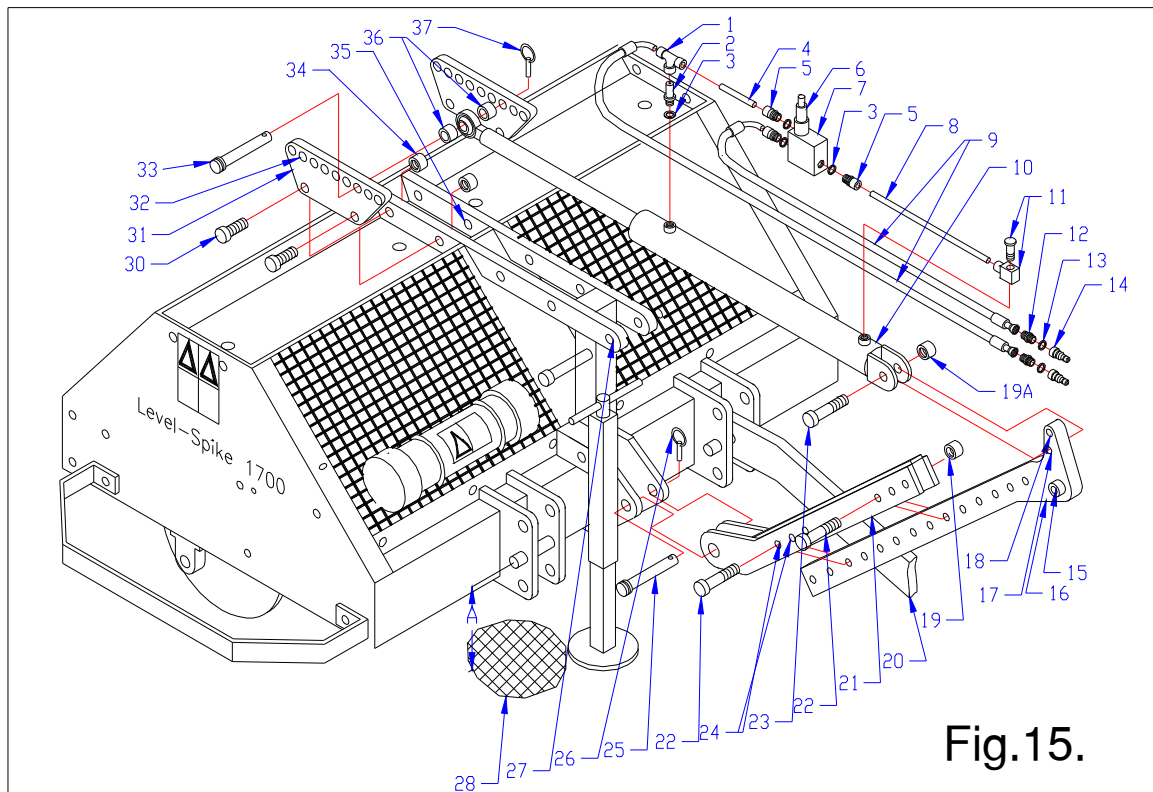

Fig.15.
12.6 WEIGHT TRANSFER KIT, See fig.15.
Assemble the components to the hydraulic cylinder, see Fig. 15. The flow reducer 2 is screwed in the hydraulic cylinder 10. Use copper washer 3. Fit all three connectors 5 to the pressure relieve valve 7, using washers 3. Slide the tubes 4/8 fully into the connectors 5, T connector 1 and screw able connector 11. Mount everything onto the cylinder ports. When everything fits, tighten all connectors, keeping the valve 7 vertical up. Next hoses 9 can be fitted to the connectors 1 and 5. At the other end of the hose a threaded nipple 12 fits, on which a quick Fit connector 14 can be mounted, using a copper washer 13 to seal. When everything is tight, the hydraulic cylinder assembly is ready to use.
Fit the symmetric plates 31 with bolts 30 and nuts 34 to the standard holes 35 of the machine, as is shown in fig. 15.